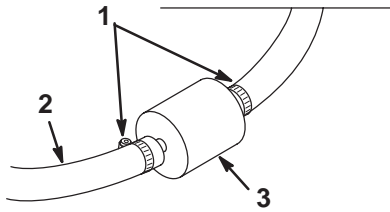

Figure 23
3. Loosen the hose clamps and slide them up the hose, away from the filter (Fig. 23).
4. Remove the filter from the fuel lines (Fig. 23).